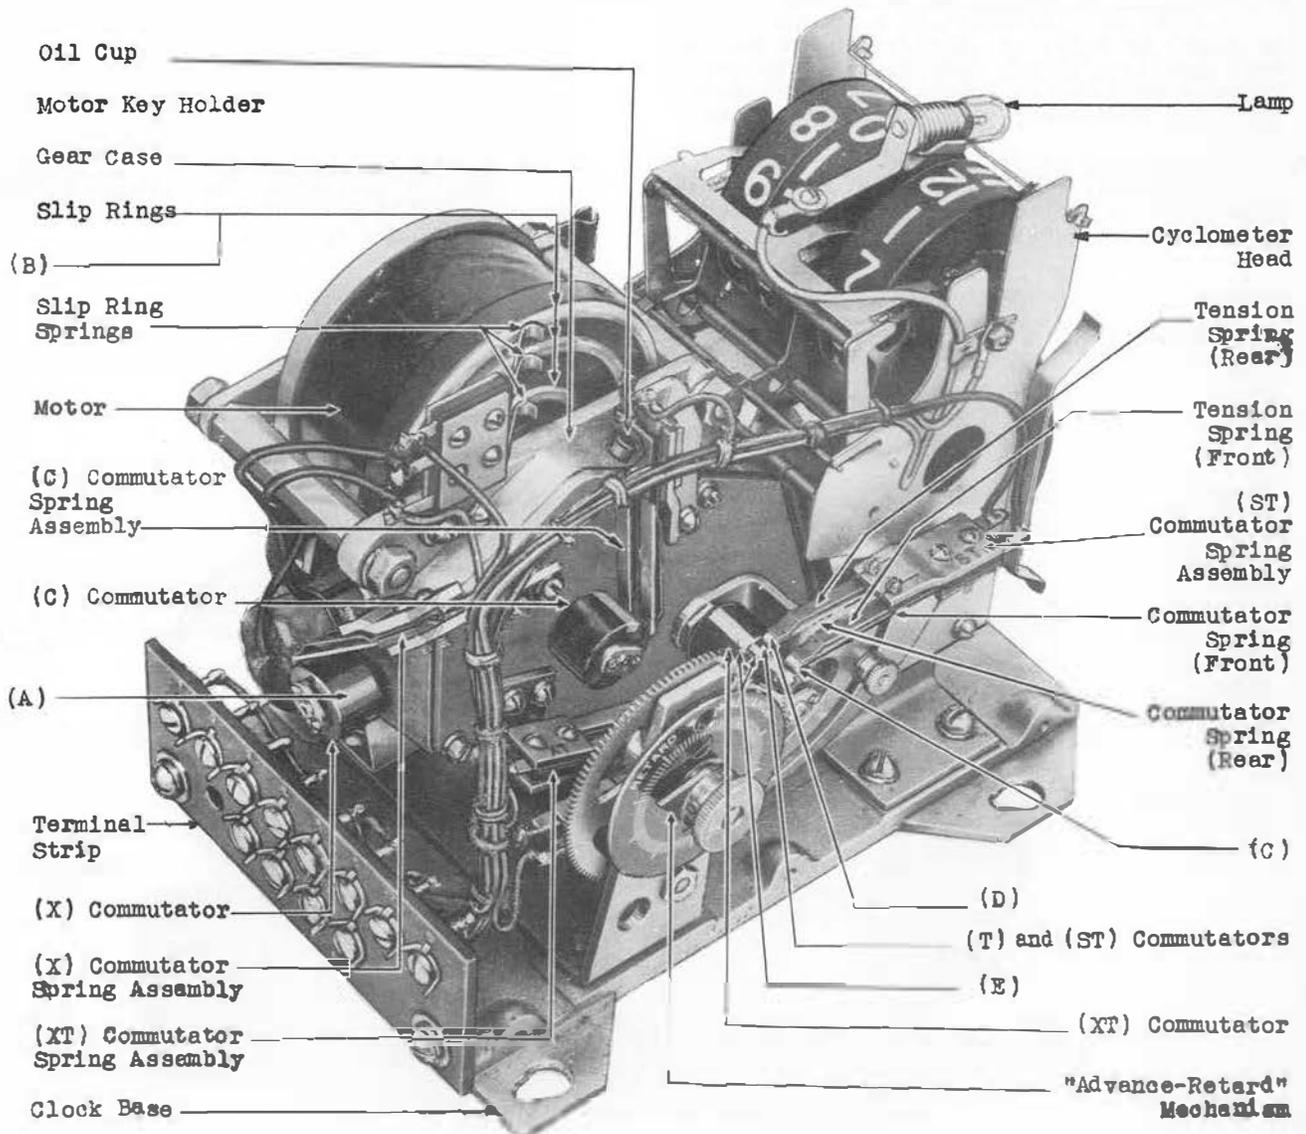

Fig. 1 - Illustrating Commutators and Commutator Spring Assemblies
(a) The commutator (Fig. 1 (A)), and slip rings (Fig. 1 (B)) shall be adequately coated with a light coat of W.E. Co. 57997 petrolatum.
(a) Fig. 1 (C) - The commutator springs shall be so aligned that the contacting surfaces are wholly within the edges of the commutators. Gauge by eye.
(b) Fig. 1 (D) - The tension springs and their associated commutator springs shall be in approximate alignment with each other (within the thickness of the tension spring) across the width of the springs. Gauge by eye.
2.12 Alignment of (ST) and (XT) Commutator
Segments - Fig. 1 (E): The centerline of the (ST) commutator segment shall be in alignment (within the thickness of the tension spring) with the centerline of the (XT) commutator segment. Gauge by eye.
2.13 Relation Between (C) and (T) Commu-